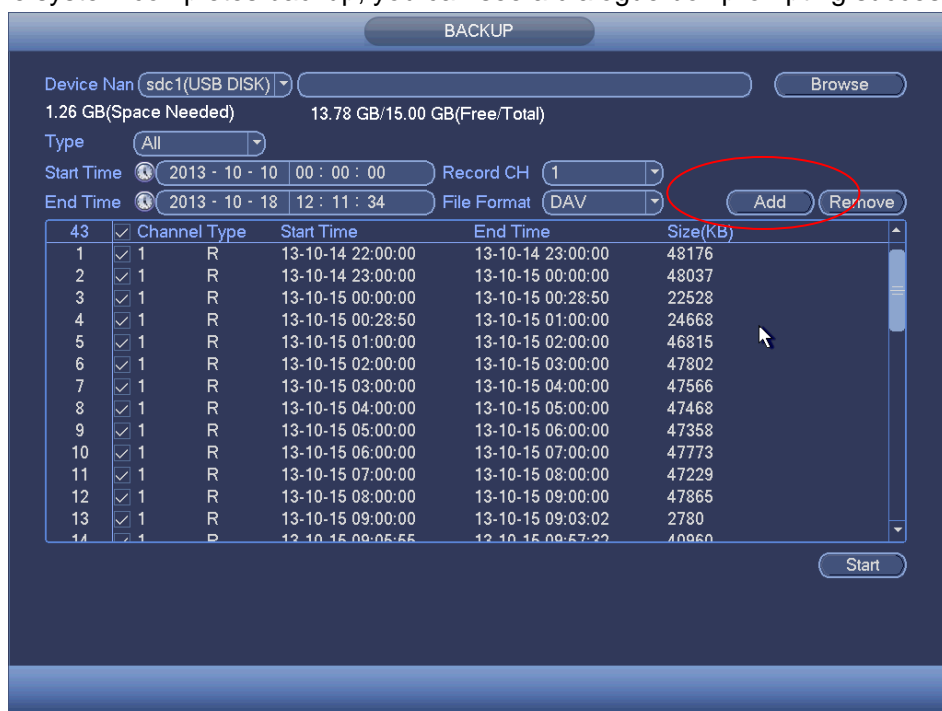

Figure 3-235
- d) Click add button, system begins search. All matched files are listed below. System automatically calculates the capacity needed and remained. See Figure 3-235.